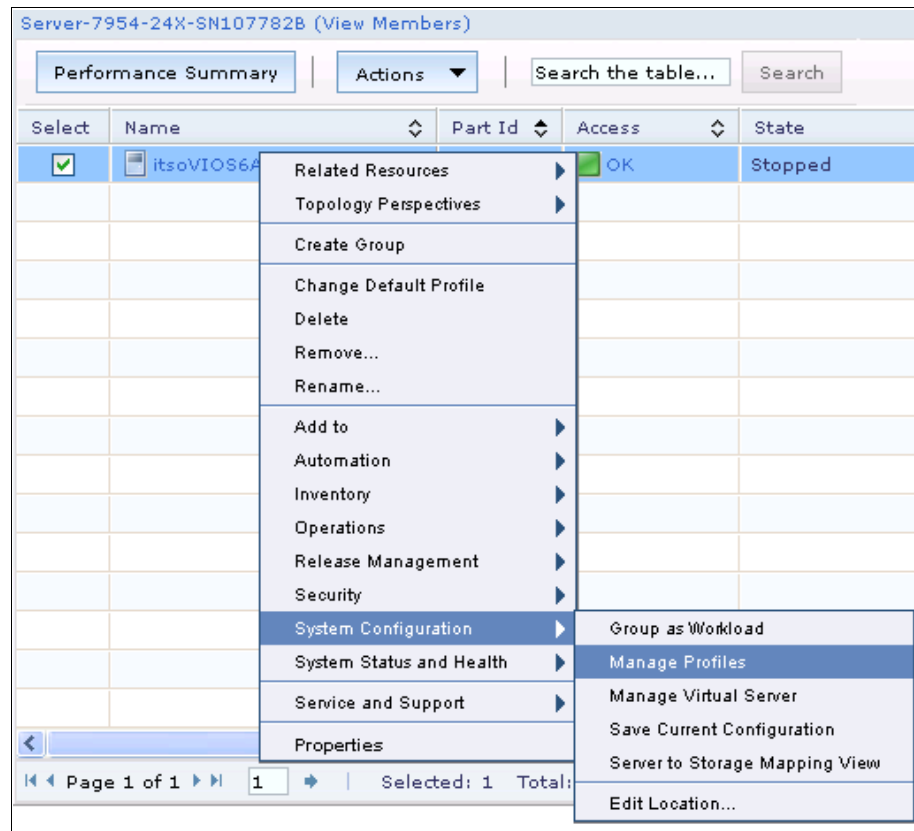

Figure 8-47 Manage VIOS profiles to change settings from FSM
1. Select the newly created VIOS and click **Actions** → **System Configuration** → **Manage Profiles**, as shown in Figure 8-47.